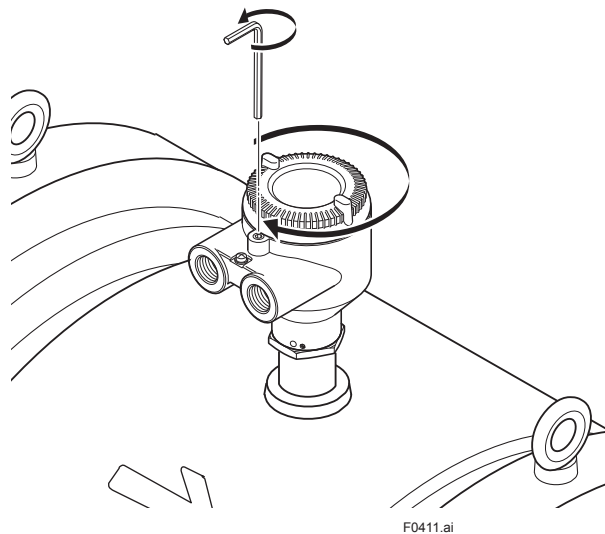

Figure 4.1.11 Installing the Terminal Box Cover
- Be sure to lock the cover using a hexagonal wrench (nominal size 3 mm) after installing the cover. For handling the locking screw, refer to Figure 4.1.11.